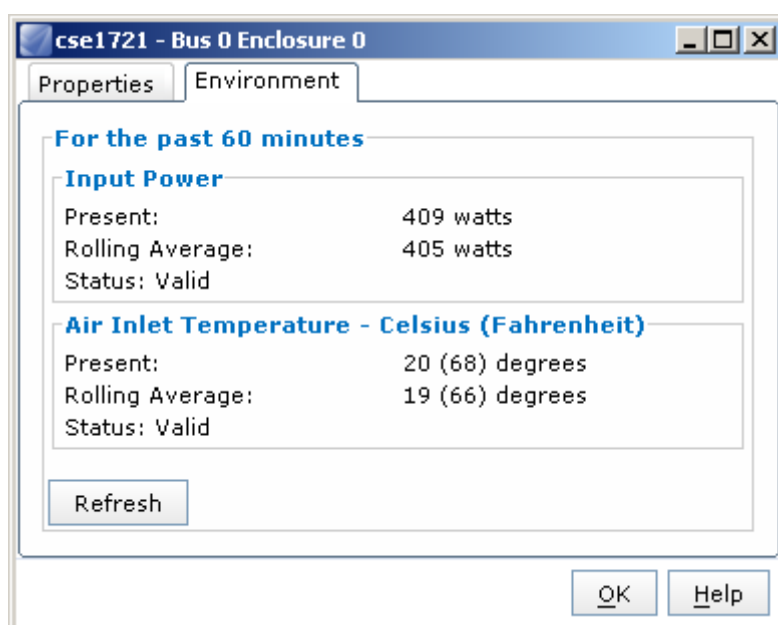

Figure 4. Energy information provided in the Unisphere Environment tab
- Provide adaptive cooling, in which an array adjusts the power supply fan speeds to spin only as fast as needed to ensure sufficient cooling. This optimizes blower speeds and energy consumption. The power supplies have an onboard sensor that provides energy information reporting. The reports include input power and air inlet temperature for each enclosure on the array, as well as input power reporting at an overall array level. The values are based on a rolling average for each hour that is reported on in the Unisphere GUI, as shown in Figure 4.